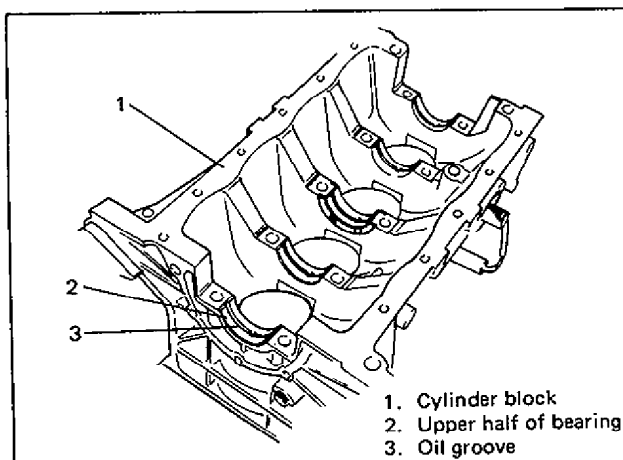

Fig. 6A-139 Upper Half of Bearing Installation
- On each main bearing cap, arrow mark and number are embossed as shown in Fig. 6A-140. When installing each bearing cap to cylinder block, point arrow mark toward crankshaft pulley side and install each cap from that side to flywheel side in ascending order of numbers "1", "2", "3", "4" and "5". Tighten cap bolts to specified torque.